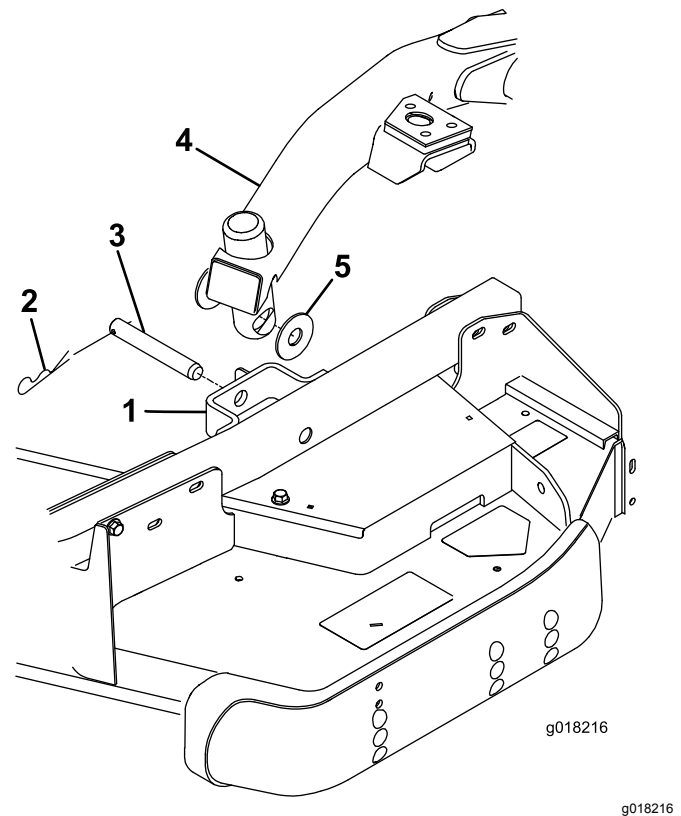

Figure 5
4. Secure the lift arm to the castor arm with the 2 thrust washers, a clevis pin and a hairpin cotter. Position the thrust washers between the lift arm and the castor arm bracket (Figure 5) and insert end of cotter pin into the slot in the castor arm tab to retain cotter pin.
1. Remove the 2 thrust washers, clevis pin and hairpin cotter from each castor arm bracket on the cutting unit (Figure 5).
3. Press the lift switch forward to the FLOAT position. Push a lift arm down until the holes in the lift arm line up with the holes in the castor arm bracket (Figure 5).